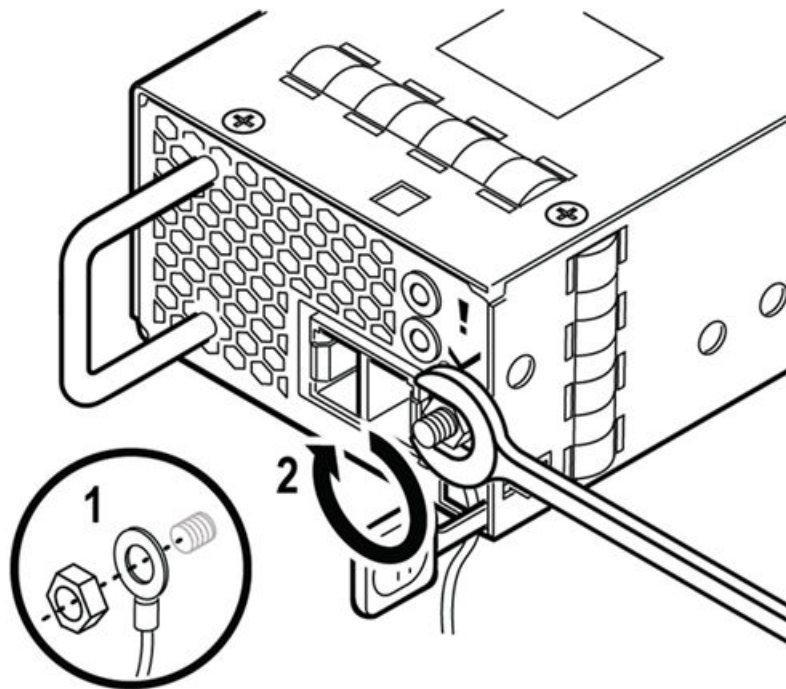

Figure 433: Securing the Ground Wire
- b. Slide the ring terminal of the ground wire onto the grounding post (callout 1 in Figure 433).